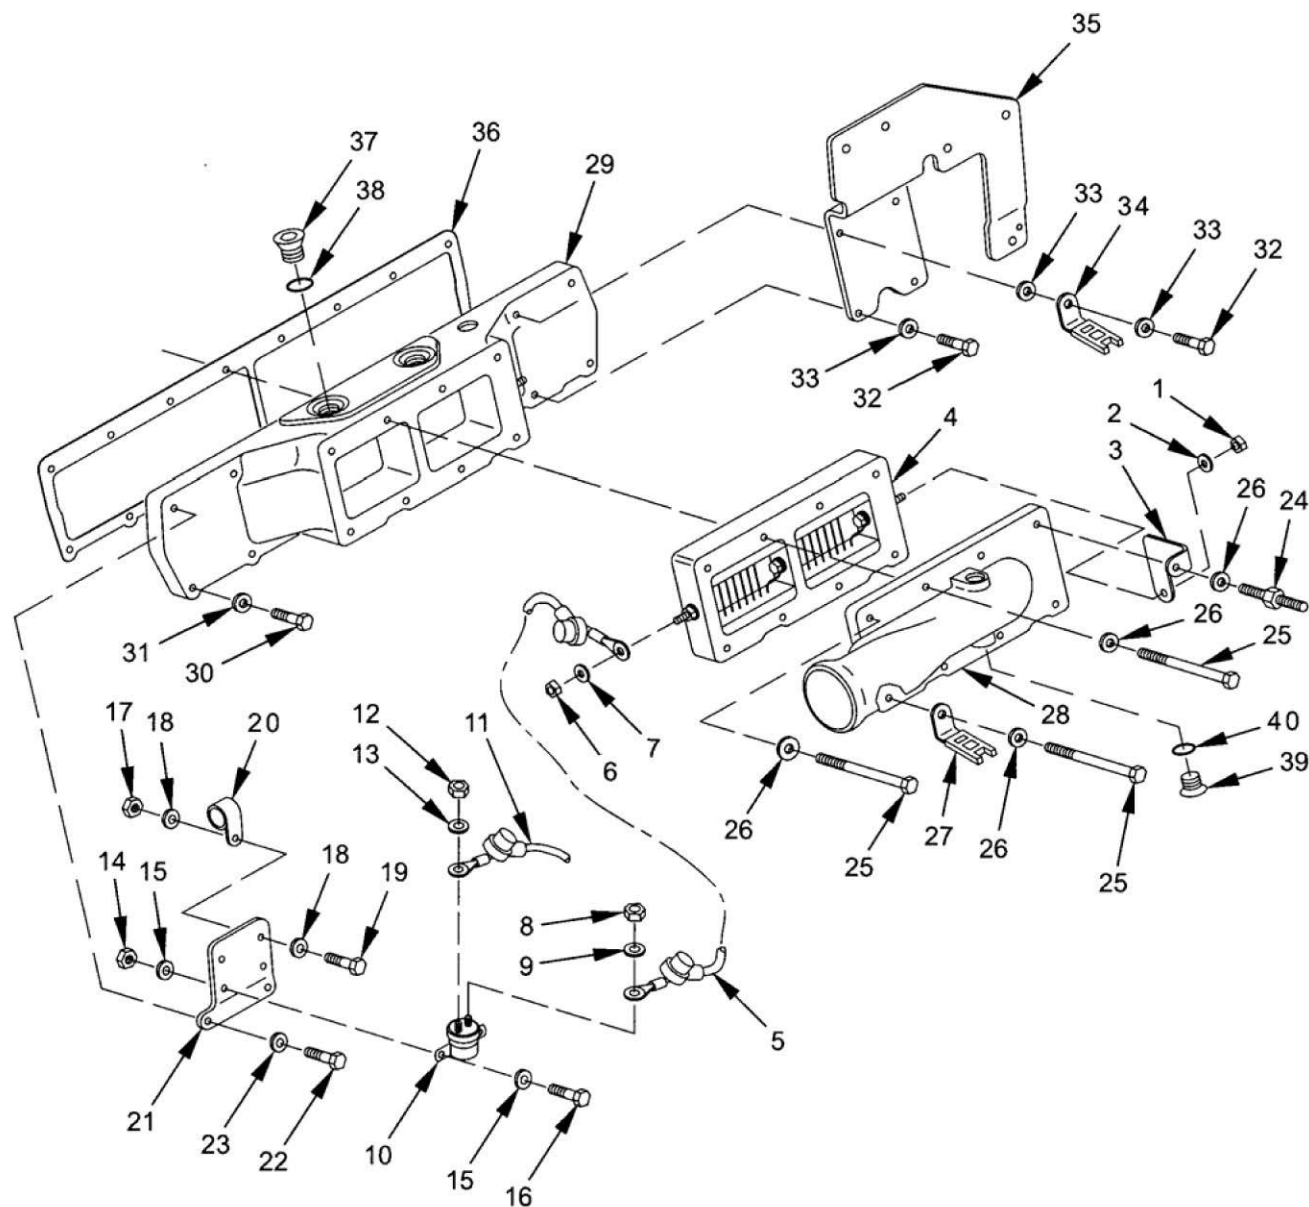

Figure 1. Air Inlet Elbow, Heater, and Manifold Cover.
1. Remove nut (Figure 1, Item 1) and lock washer (Figure 1, Item 2), and disconnect bracket (Figure 1, Item 3) from air inlet heater (Figure 1, Item 4).
2. Pull back boot on cable (Figure 1, Item 5), remove nut (Figure 1, Item 6) and lock washer (Figure 1, Item 7), and disconnect cable (Figure 1, Item 5) from air inlet heater (Figure 1, Item 4).
3. Pull back boot on cable (Figure 1, Item 5), remove nut (Figure 1, Item 8) and lock washer (Figure 1, Item 9),
and remove cable (Figure 1, Item 5) from air inlet heater relay (Figure 1, Item 10).
4. Pull back boot on cable (Figure 1, Item 11), remove nut (Figure 1, Item 12) and lock washer (Figure 1, Item 13), and disconnect cable (Figure 1, Item 11) from air inlet heater relay (Figure 1, Item 10).
5. Remove two nuts (Figure 1, Item 14), four washers (Figure 1, Item 15), two bolts (Figure 1, Item 16), and air inlet heater relay (Figure 1, Item 10).
6. Remove nut (Figure 1, Item 17), two washers (Figure 1, Item 18), screw (Figure 1, Item 19), and loop clamp (Figure 1, Item 20) from air inlet heater relay bracket (Figure 1, Item 21).
7. Remove two bolts (Figure 1, Item 22), washers (Figure 1, Item 23), and air inlet heater relay bracket (Figure 1, Item 21).
8. Remove two studs (Figure 1, Item 24), six bolts (Figure 1, Item 25), eight washers (Figure 1, Item 26), clip (Figure 1, Item 27), bracket (Figure 1, Item 3), air inlet elbow (Figure 1, Item 28), and air inlet heater (Figure 1, Item 4), from air inlet manifold cover (Figure 1, Item 29).
9. Remove two bolts (Figure 1, Item 30), washers (Figure 1, Item 31), four bolts (Figure 1, Item 32), five washers (Figure 1, Item 33), clip (Figure 1, Item 34), fuel filter bracket (Figure 1, Item 35), air inlet manifold cover (Figure 1, Item 29), and gasket (Figure 1, Item 36).
10. Remove two plugs (Figure 1, Item 37), O-rings (Figure 1, Item 38), plug (Figure 1, Item 39), and O-ring (Figure 1, Item 40).
1. Install O-ring (Figure 1, Item 40) and plug (Figure 1, Item 39) in air inlet elbow (Figure 1, Item 28).
2. Install two O-rings (Figure 1, Item 38) and plugs (Figure 1, Item 37) in air inlet manifold cover (Figure 1, Item 29).
3. Apply primer to both mating sides of gasket (Figure 1, Item 36) and allow to dry for five minutes.
4. Apply sealant to both mating sides of gasket (Figure 1, Item 36). Install gasket (Figure 1, Item 36), air inlet manifold cover (Figure 1, Item 29), fuel filter bracket (Figure 1, Item 35), clip (Figure 1, Item 34), five washers (Figure 1, Item 33), four bolts (Figure 1, Item 32), two washers (Figure 1, Item 31), and two bolts (Figure 1, Item 30). Tighten bolts (Figure 1, Item 32) and (Figure 1, Item 30) in an alternating pattern, making sure that the gasket (Figure 1, Item 36) does not slip. Torque bolts (Figure 1, Item 32) and (Figure 1, Item 30) to 16-26 lb•ft (21-35 N•m).
5. Apply primer to mating sides of air inlet manifold cover (Figure 1, Item 29) and air inlet heater (Figure 1, Item 4) and allow to dry for five minutes.
6. Apply sealant to mating sides of air inlet manifold cover (Figure 1, Item 29) and air inlet heater (Figure 1, Item 4). Install air inlet heater (Figure 1, Item 4), air inlet elbow (Figure 1, Item 28), clip (Figure 1, Item 27), bracket (Figure 1, Item 3), bracket (Figure 1, Item 26), six bolts (Figure 1, Item 25), and two studs (Figure 1, Item 24). Tighten studs (Figure 1, Item 24) and bolts (Figure 1, Item 25) in an alternating pattern. Torque studs (Figure 1, Item 24) and bolts (Figure 1, Item 25) to 16-26 lb•ft (21-35 N•m).
7. Install air inlet heater relay bracket (Figure 1, Item 21), two washers (Figure 1, Item 23), and two bolts (Figure 1, Item 22). Torque two bolts (Figure 1, Item 22) to 16-26 lb•ft (21-35 N•m).
8. Install loop clamp (Figure 1, Item 20) on air inlet heater relay bracket (Figure 1, Item 21) with screw (Figure 1, Item 19), two washers (Figure 1, Item 18), and screw (Figure 1, Item 17).
9. Install air inlet heater relay (Figure 1, Item 10), two bolts (Figure 1, Item 16), four washers (Figure 1, Item 15), and two nuts (Figure 1, Item 14).
10. Connect cable (Figure 1, Item 11) to air inlet heater relay (Figure 1, Item 10) and install lock washer (Figure 1, Item 13) and nut (Figure 1, Item 12). Torque nut (Figure 1, Item 12) to 49-57 lb•in (6-7 N•m).
11. Connect cable (Figure 1, Item 5) to air inlet heater relay (Figure 1, Item 10) and install lock washer (Figure 1, Item 9) and nut (Figure 1, Item 8). Torque nut (Figure 1, Item 8) to 49-57 lb•in (6-7 N•m).